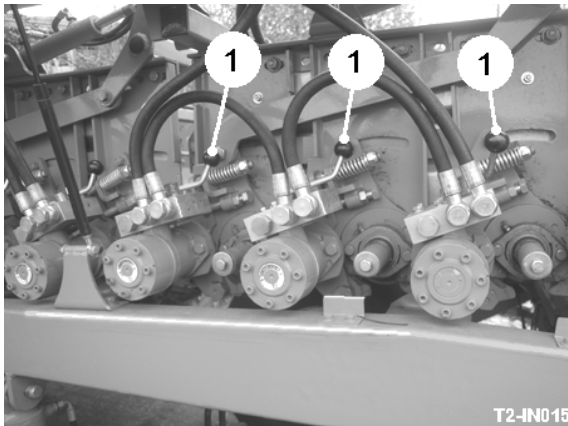

Fig 1
Each scroll shaft and each clod roller is driven by a motor. The motors can be electric or hydraulic. Hydraulically driven clod rollers can be fitted with manual reversing valves (item 1, fig. 1) to allow the rotation of each clod roller to be set.